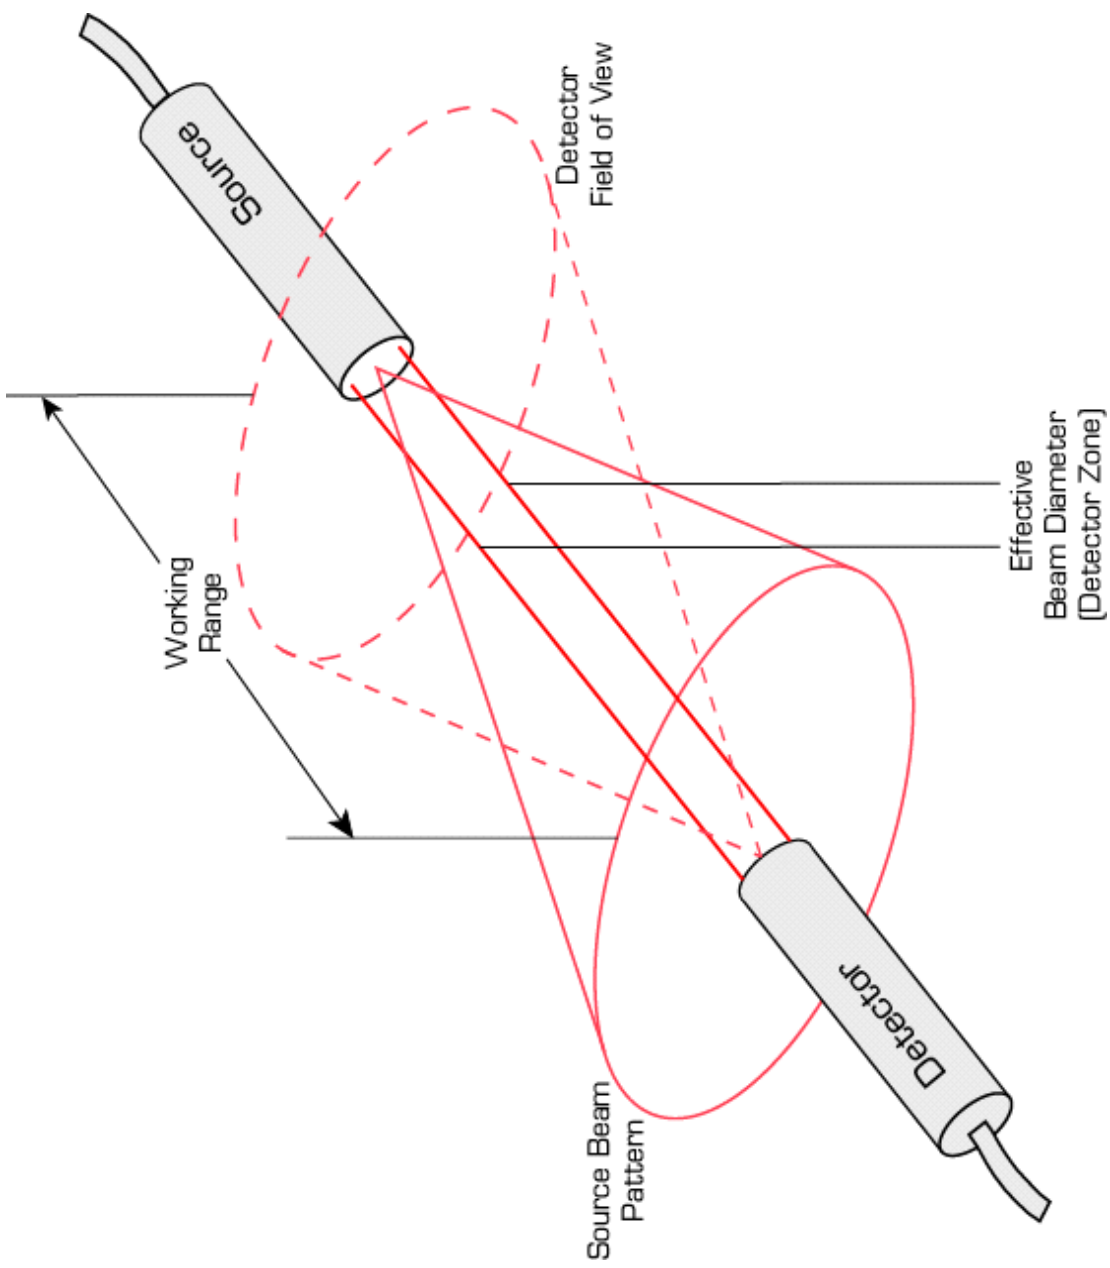

Figure 3 Alignment
7. The above six steps establish that the cabinets are pointed at each other but do not ensure the best “center of envelope” aiming of “eye to eye.” See **Figure 3**, Alignment.
8. The above seven steps establish the best field alignment of the cabinets pointed at each other. Factory alignment ensures the best ‘center of envelope’ aiming of ‘eye to eye’. See **Figure 3**, Alignment.